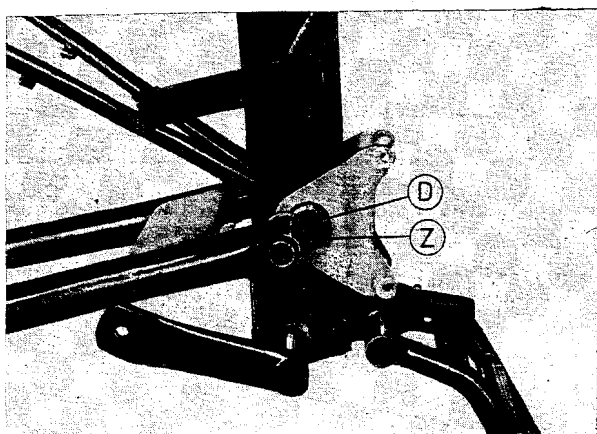

Fig. 94. Engine shoes axially compressed by pressure ring (D) and tie rod (Z) with thread M6, rear-wheel swing-fork pushed in place
- Compress the engine shoes axially to the length of the frame bearing tube with the help of the pressure rings (see Fig. 94);